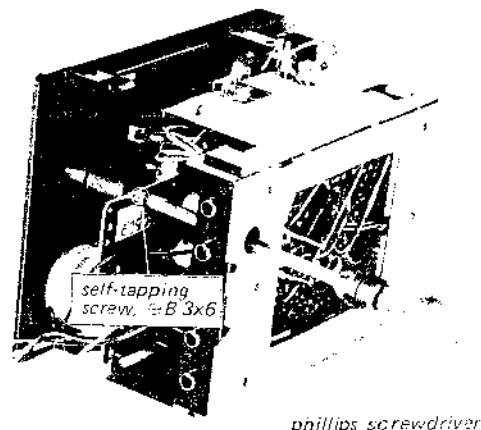

Fig. 2-8. Top cover removal
4. Remove the self-tapping screw ($\oplus B\ 3\times 6$) securing the top cover to the chassis as shown in Fig. 2-8. This frees the top cover.